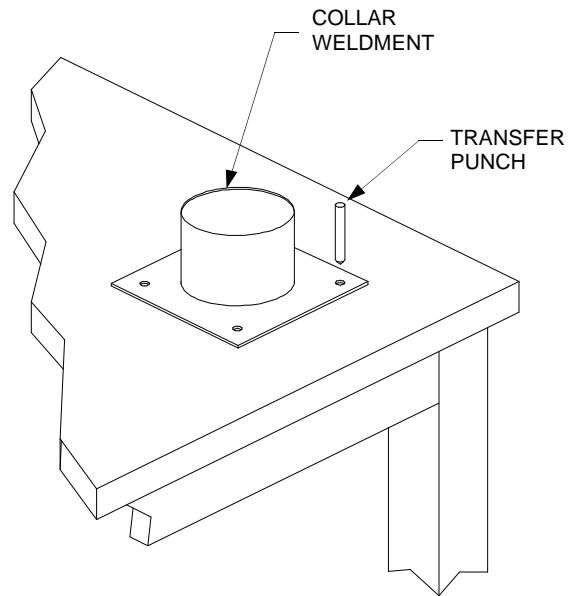

Figure 1
3. Place a transfer punch in each of the four holes of the collar weldment and strike with a hammer. (See Figure 1).